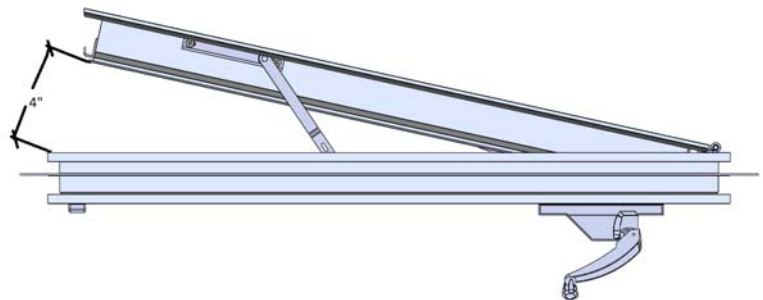

Figure 2:
- Place the arm to the maximum distance on the track (Figure 2).
- Fasten the bracket to the vent with two (2) #10 PHP-B 0.5" screws.